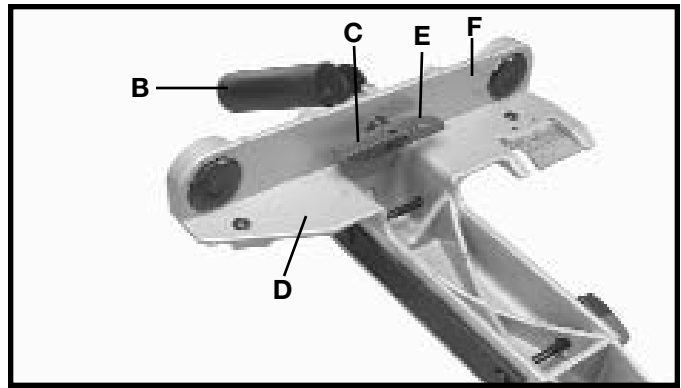

Fig. 32
1. Turn fence body (A) Fig. 32, upside down and lay it on a table or bench. Pull handle (B) out against fence body. Make certain the surface (C) of clamp bracket is parallel to the face (D) of the fence body, and that the inside edge (E) of the clamp bracket is parallel to surface (F) of the fence body. Turn handle (B) Fig. 32, if necessary.